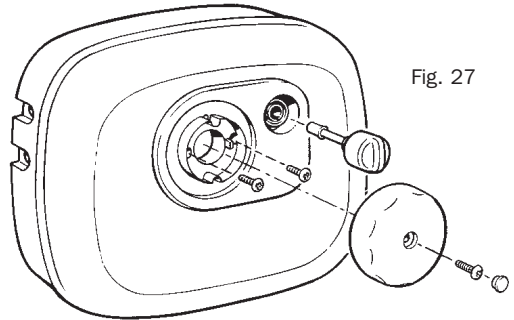

Fig. 27
4. Install front cover and secure with 2 retaining screws, see Fig. 27.